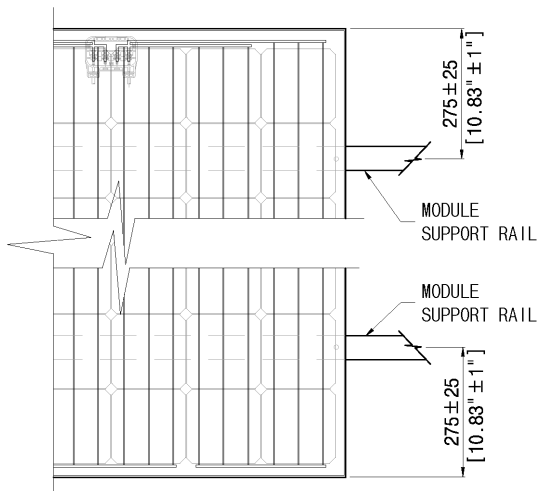

Figure 5A: Module Mounting Hole Locations
Figures 5A, 5B and 5C provide illustrations of the module mounting holes, frame design and general dimensions follow below. Please note that all units are in millimeters.
- 4) Please refer to Figures 5A and 5C for the module dimensions and hole locations